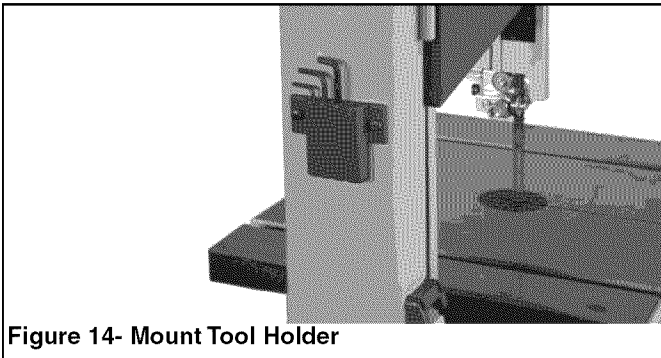

Figure 14- Mount Tool Holder
- Assemble the tool holder to the column of the band saw with two pan head screws. Locate two pan head screws from the bag of loose parts. Mount the tool holder to the column and install a pan head screw in each hole, and then tighten with Phillips screwdriver (see Figure 14).